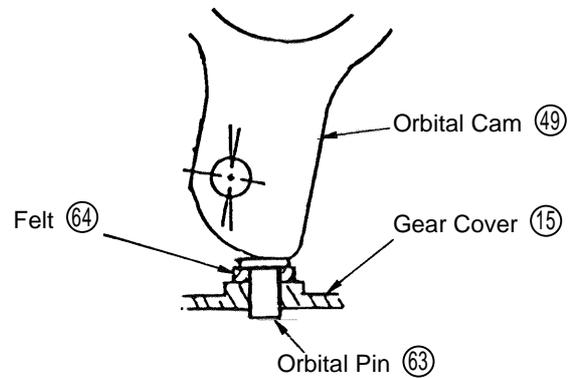

Fig. 18
(5) During reassembly, be very careful not to forget to install the Orbital Pin (63) and the Felt (64) at the lower portion of the Orbital Cam (49), as shown in Fig. 18.